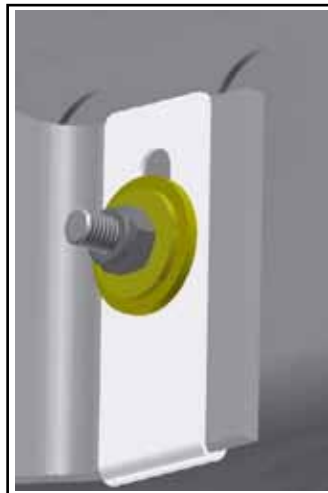

Figure 8 - Final Appearance
1.7. Replace the washers and the nut. See Figure 8.